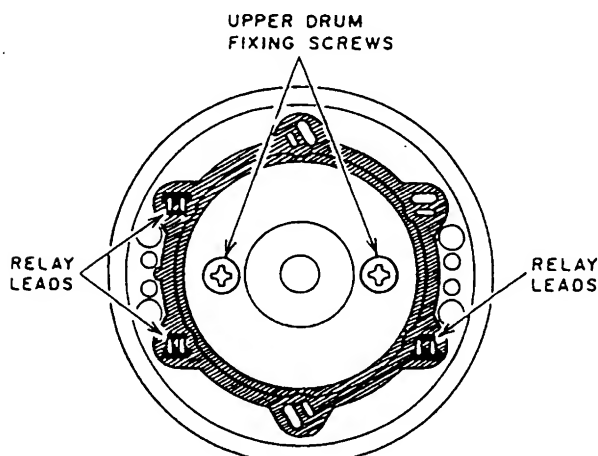

Fig. 3-19
- 1) Unsolder the six relay leads and remove the two upper drum fixing screws as shown in Fig. 3-19.